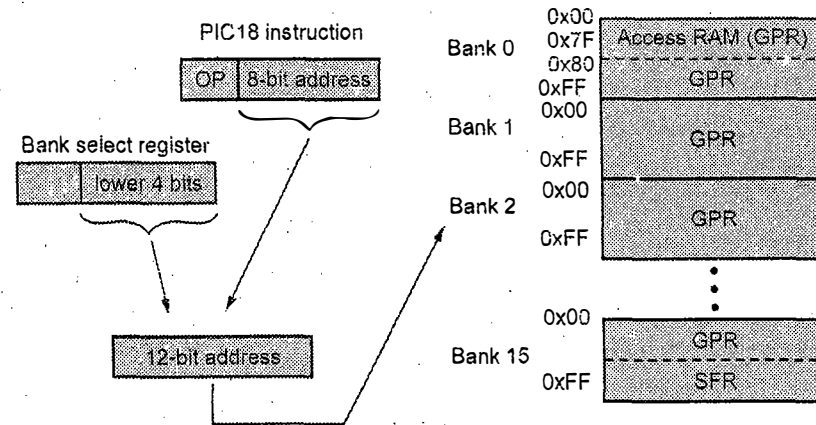

Fig. Q.6.2 : Use of BSR for bank selection
- The machine code for a PIC18 instruction has only 8 bits for a data memory address which needs 12 bits. The Bank Select Register (BSR) supplies the other 4 bits as shown in Fig. Q.6.2.